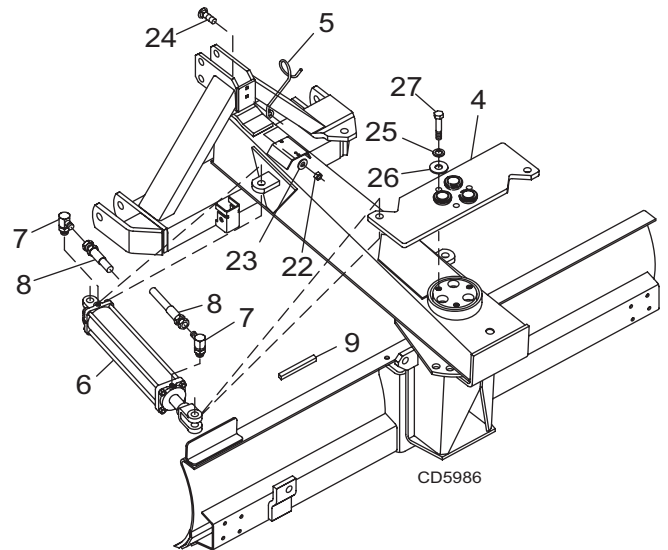

Figure 14. Angle Kit Installation
Refer to Figure 14.
3. Place hydraulic angle arm assembly (4) on boom as shown Figure 14.
4. Secure into position using three cap screws (27), lock washers (25), and flat washers (26).
5. Attach hydraulic cylinder (6) to boom and hydraulic angle arm assembly as shown. Secure with pins supplied with the cylinder.
6. Attach hose holder (5) to A-Frame using carriage bolt (24), flat washer (23), and lock nut (22).
7. Install adjustable elbows (7) and hoses (8) (Models MA and TA) to cylinder.